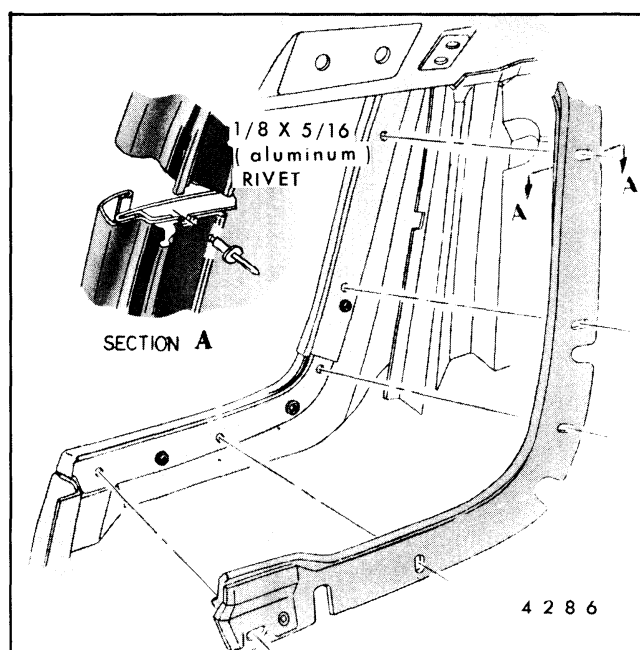

Fig. 6-24-Quarter Window Outer Sealing Strip Rivet Installation ("E-57" Style Shown, "B-C-E" Styles Similar)
5. To install, align holes in outer panel and sealing strip and attach with new rivets (Fig. 6-24).